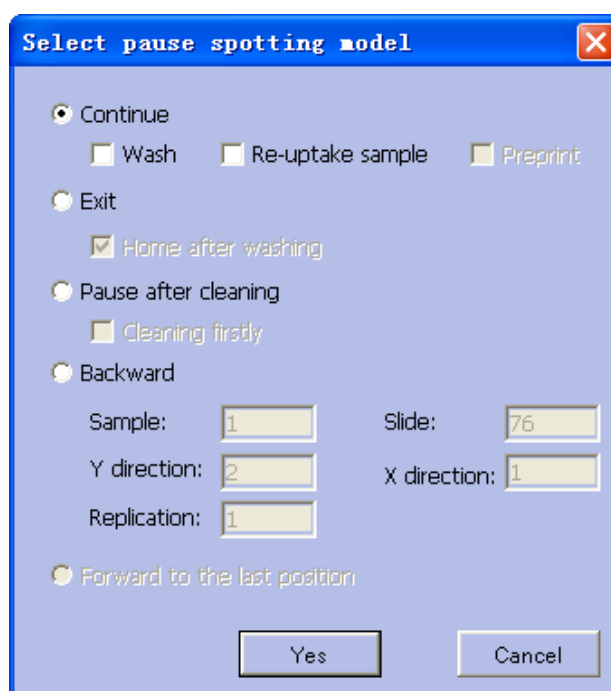

Figure 7-12 The continue option after pause
Step 2: Select *Next Action*. Five options are provided to handle different circumstances. Users can select one solution to resume normal status as shown in Figure 7-12.